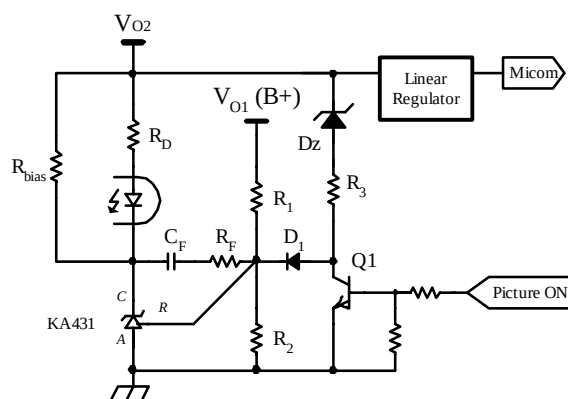

Figure 12. Typical feedback circuit to drop output voltage in standby mode
-Auto-restart mode protection: Once the fault condition is detected, switching is terminated and the Sense FET remains off. This causes Vcc to fall. When Vcc falls down to the under voltage lockout (UVLO) stop voltage of 9V, the protection is reset and FSCQ1565RP consumes only startup current (25uA). Then, Vcc capacitor is charged up, since the current supplied through the startup resistor is larger than the current that FPS consumes. When Vcc reaches the start voltage of 15V, FSCQ1565RP resumes its normal operation. If the fault condition is not removed, the SenseFET remains off and Vcc drops to stop voltage again. In this manner, the auto-restart can alternately enable and disable the switching of the power Sense FET until the fault condition is eliminated (see Figure 12).